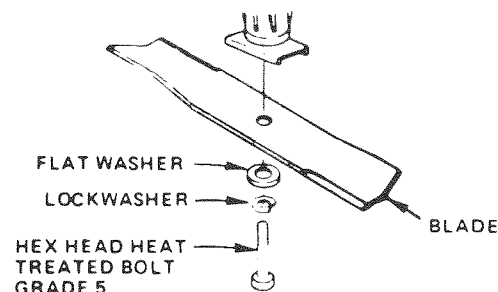

FIGURE 47
1. Remove the Hex Head Bolt, Lockwasher and Flat Washer (Fig. 47).